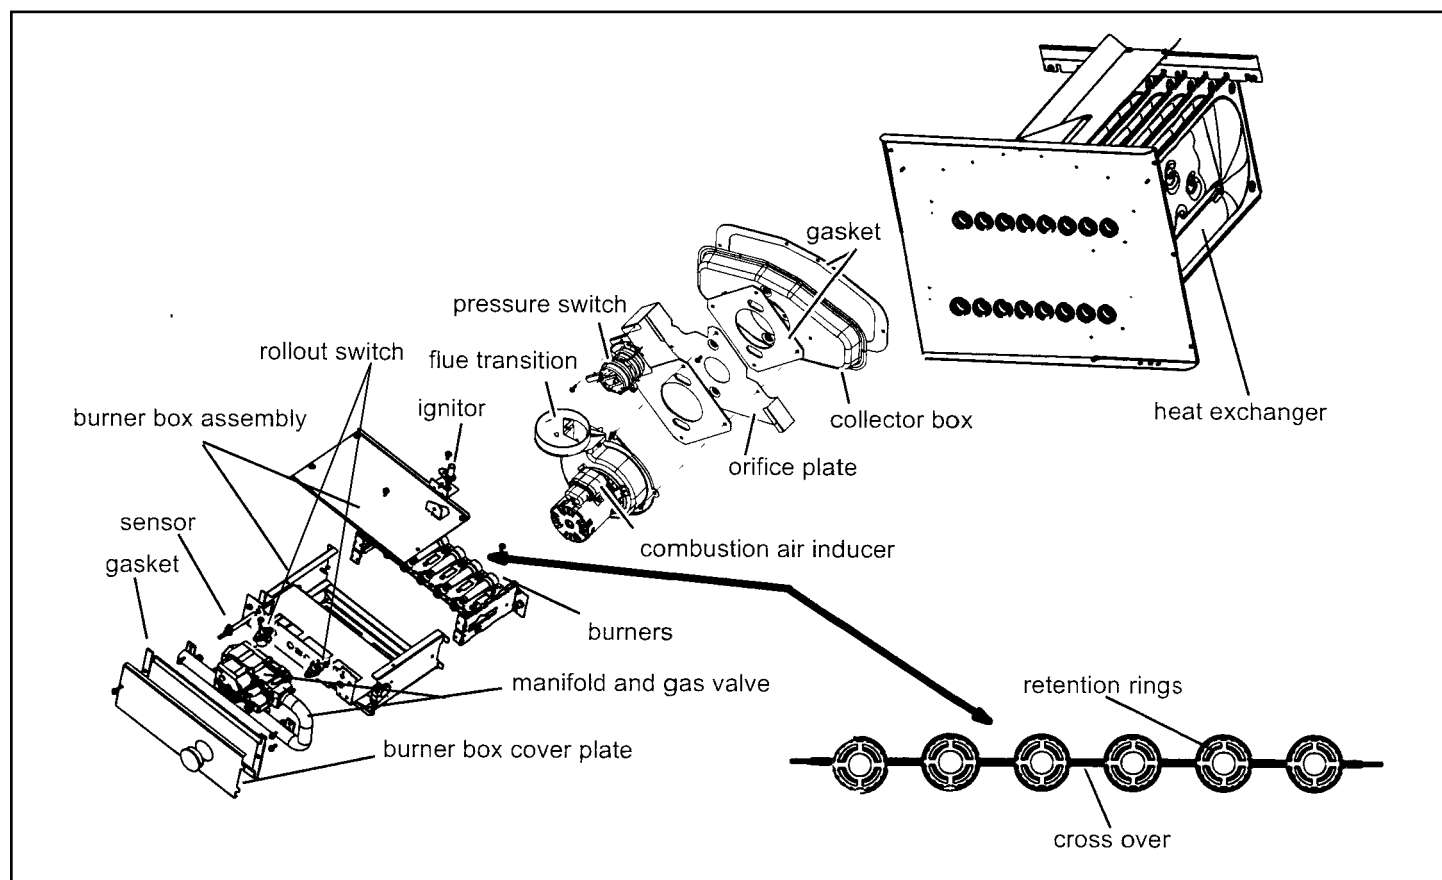

Figure 49. A80US2V Burner, Combustion Air Inducer Assembly & Heat Exchanger Removal
10. Remove heat exchanger. It may be necessary to spread cabinet side to allow more room. If so, remove five screws from the left side or right side of cabinet. See Figure 49.